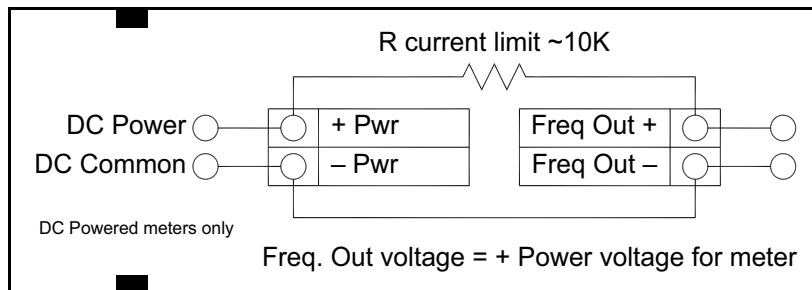

Figure 40: Non-Isolated Frequency Output Using Input Power Supply
- For DC powered meters only, use the flow meter power supply (see *Figure 40* on page 43). Use this option if the voltage at the flow meter power supply is an acceptable driver voltage for the connected load, taking into account that the current used by the connected frequency counter comes from the meter's power supply.